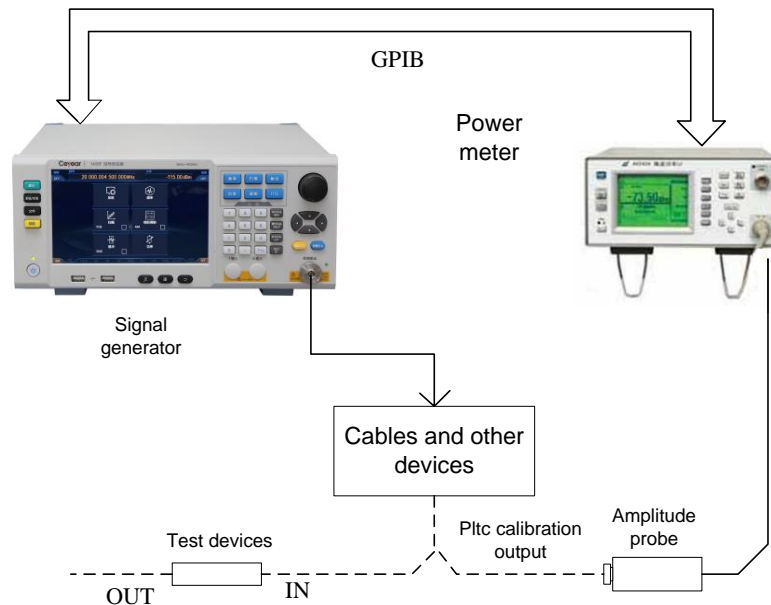

Figure 4.15 User Pt1c
**Step 1.** Connect the instrument as per Figure 4.15.